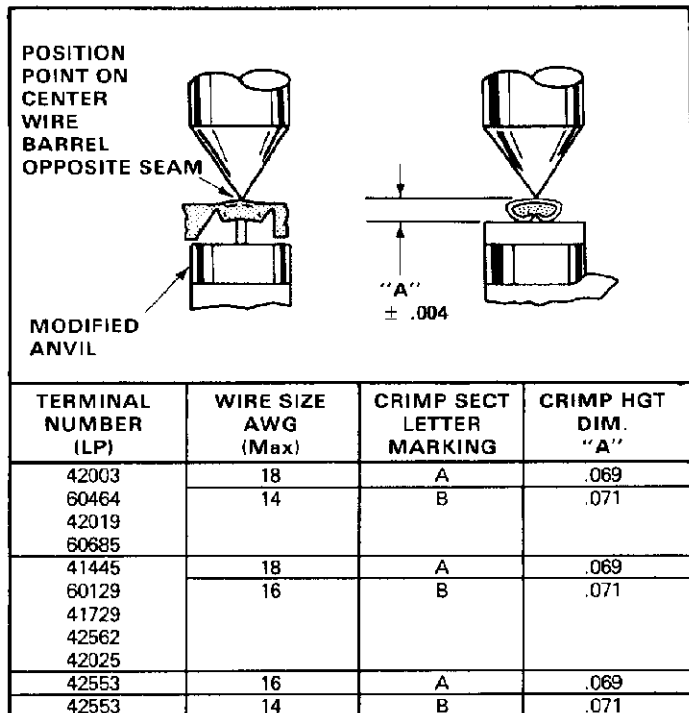

Fig. II-2
This inspection incorporates the use of a micrometer with a modified anvil as shown in Figure II-2. We recommend the modified micrometer (Crimp Height Comparator RS-1019-5L) which can be purchased from:
- Refer to the chart in Figure II-2, and select a terminal and a wire (maximum size) for each crimp section.
- Using a crimp height comparator, measure each wire barrel crimp height as shown in Figure II-2. If the crimp height conforms to that shown in the chart the head assembly is considered dimensionally correct. If not, return the head assembly to AMP for evaluation and repair (see Paragraph II-3). For additional information concerning the use of the crimp height comparator, refer to AMP Instruction Sheet IS 7424.